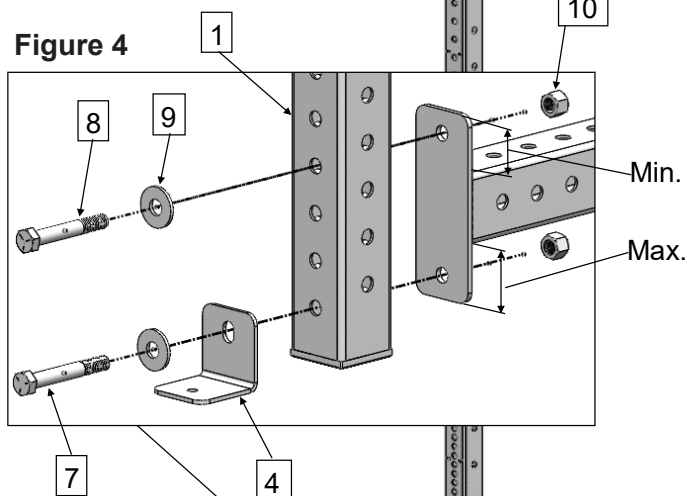

Figure 4
4. Attach angle foot (Figure 4).